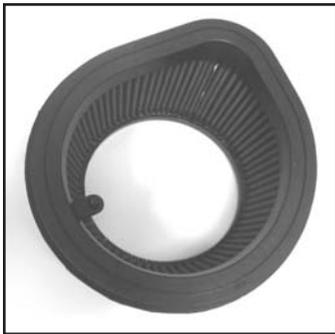

Fig. 1
3. Apply a thin layer of the provided K&N Sealing Grease to the air filter base. (Fig. 1)